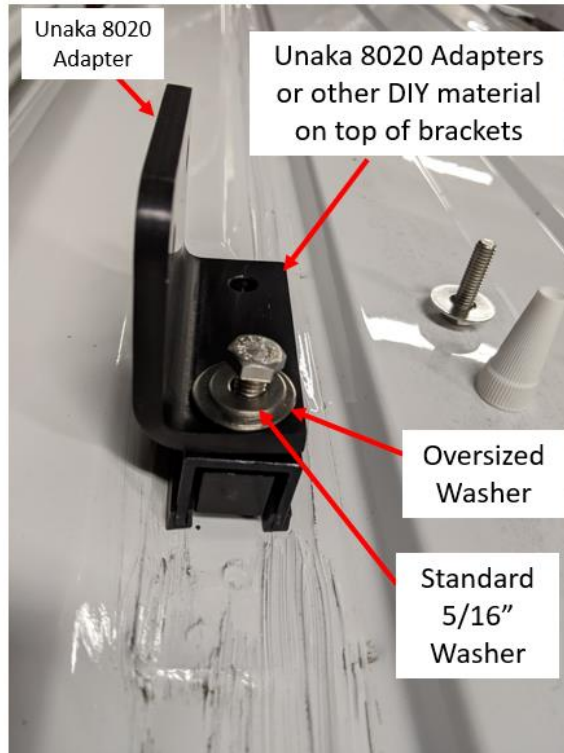

Figure 4: Installing Unaka 8020 Adapter Bracket
6. With all the Unaka mounts in place on one side, place your DIY material (Uni-strut, Unaka 8020 Adapters, or other material) on top of the mounts, apply LOCTITE to hardware, and insert hardware and hand tighten. Repeat for opposite side rail. **\*\*SEE next step before tightening hardware! \*\*** Figure 4 shows the installation of Unaka 8020 adapters and Figure 5 shows installation of Uni-Strut side rails. Detailed instructions on installing your 8020 side rails is covered in the next section.